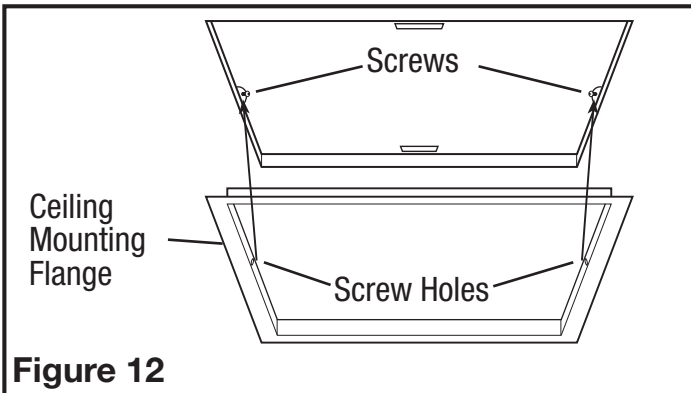

Figure 12
3. Install the ceiling mounting flange to cover any gaps which exist between the housing and the finished ceiling. Remove the two screws that connect the ceiling mounting flange to the housing. Put caulk (not provided) on each corner of the ceiling mounting flange to ensure that the flange fits tightly against the ceiling. Line up the screw holes in the ceiling mounting flange with the screw holes on the inside of the housing and press flange in place so it is tight against the ceiling. Reinstall ceiling flange mounting screws inside the housing (**Figure 12**).